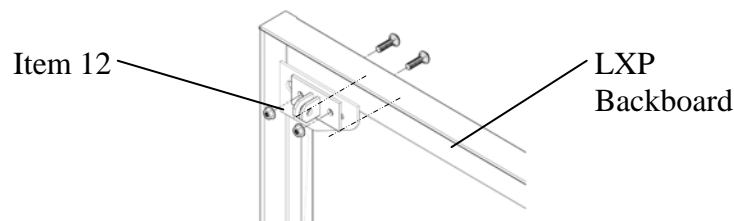

Figure 3
3. Attach the backboard brace brackets (item 12) to the top corners of the backboard as shown in figure 3. Use the 3/8-16 x 1" carriage bolts with whizlock nuts for this assembly.